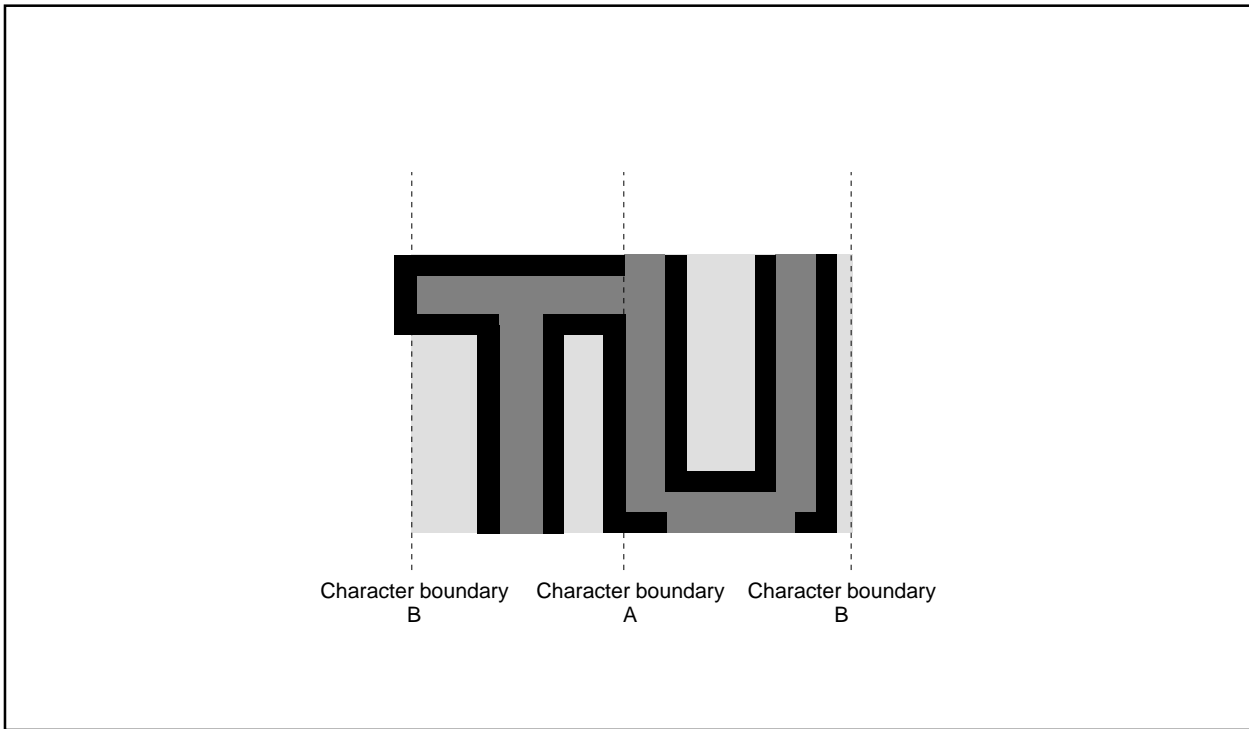

Figure 2.16.36 Border priority
- 2 :** When the border dot overlaps on the next character font, the character font has priority (refer to Figure 2.16.36 A). When the border dot overlaps on the next character back ground, the border has priority (refer to Figure 2.16.36 B).
- 3 :** The border in vertical out of character area is not displayed (refer to Figure 2.16.36).